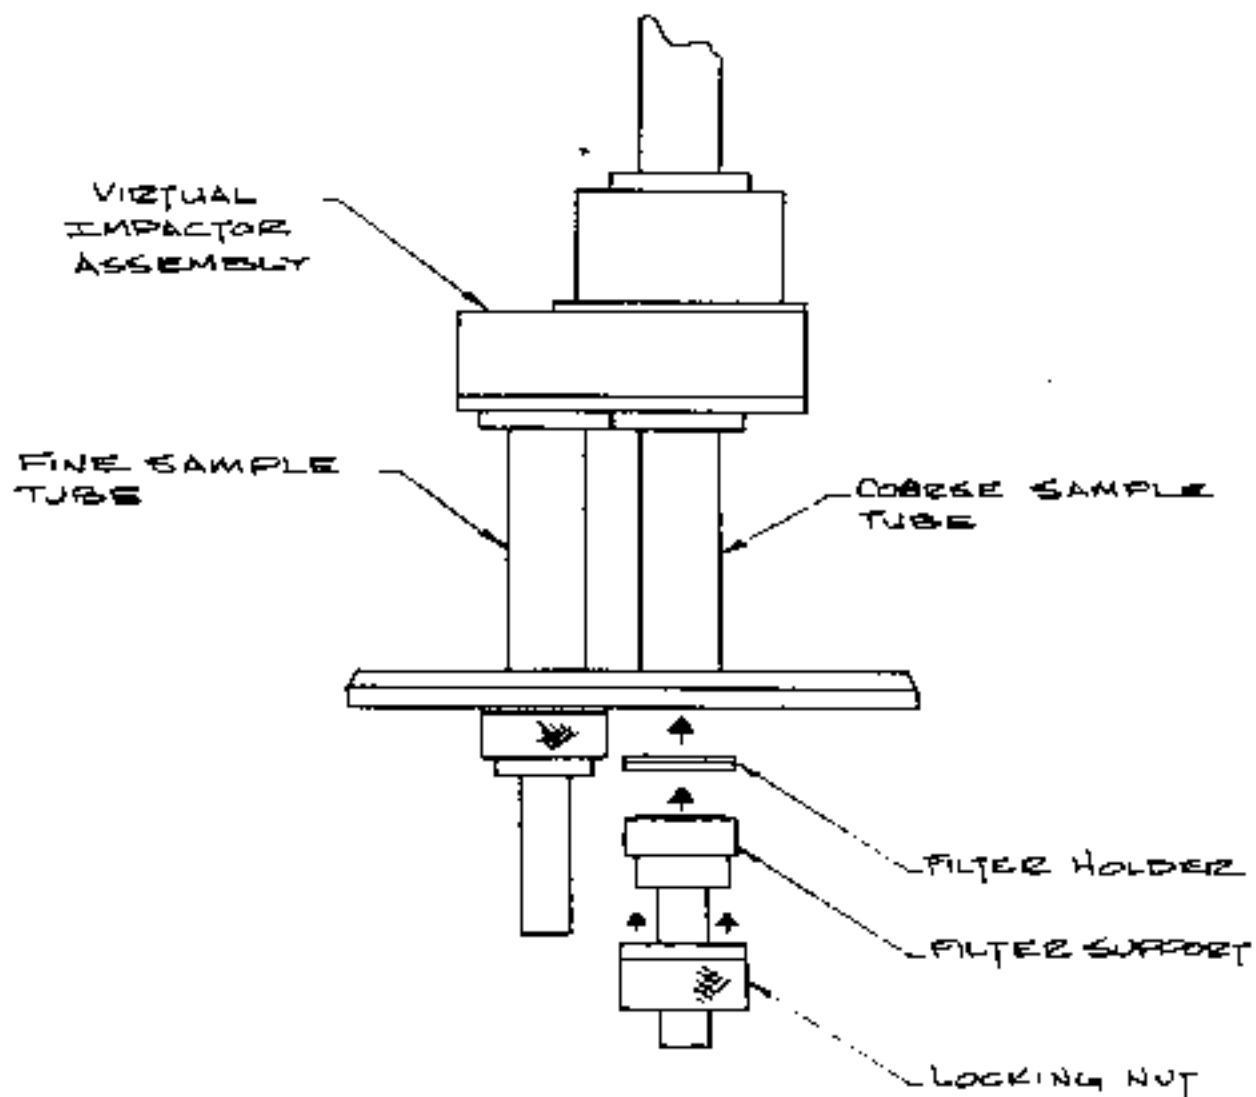

Figure 2. Schematic of the Dichotomous Sampler
- 1) Remove the two Teflon filters by unscrewing the locking nut (Figure 2). The filters must remain in their polypropylene holders. There will be a coarse particle filter in a yellow holder and a fine particle filter in a white holder. Place the each filter and holder in a separate snap-lock Petri dish for shipment. Be careful not to touch the filter.
8.5.1 Install the calibration filters (labeled side facing up) and tighten the locking nut (Figure 2).
- 3.1 Unscrew the locking nut (Figure 2) and remove the filters in their plastic holders being careful not to touch the filter. Place each filter directly into its own snap-lock Petri dish.